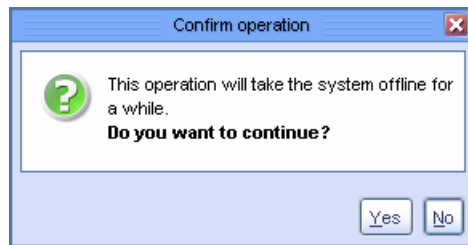

Figure 5-56 Confirm operation window
13. The Create repository wizard closes and a confirmation window opens (Figure 5-56).